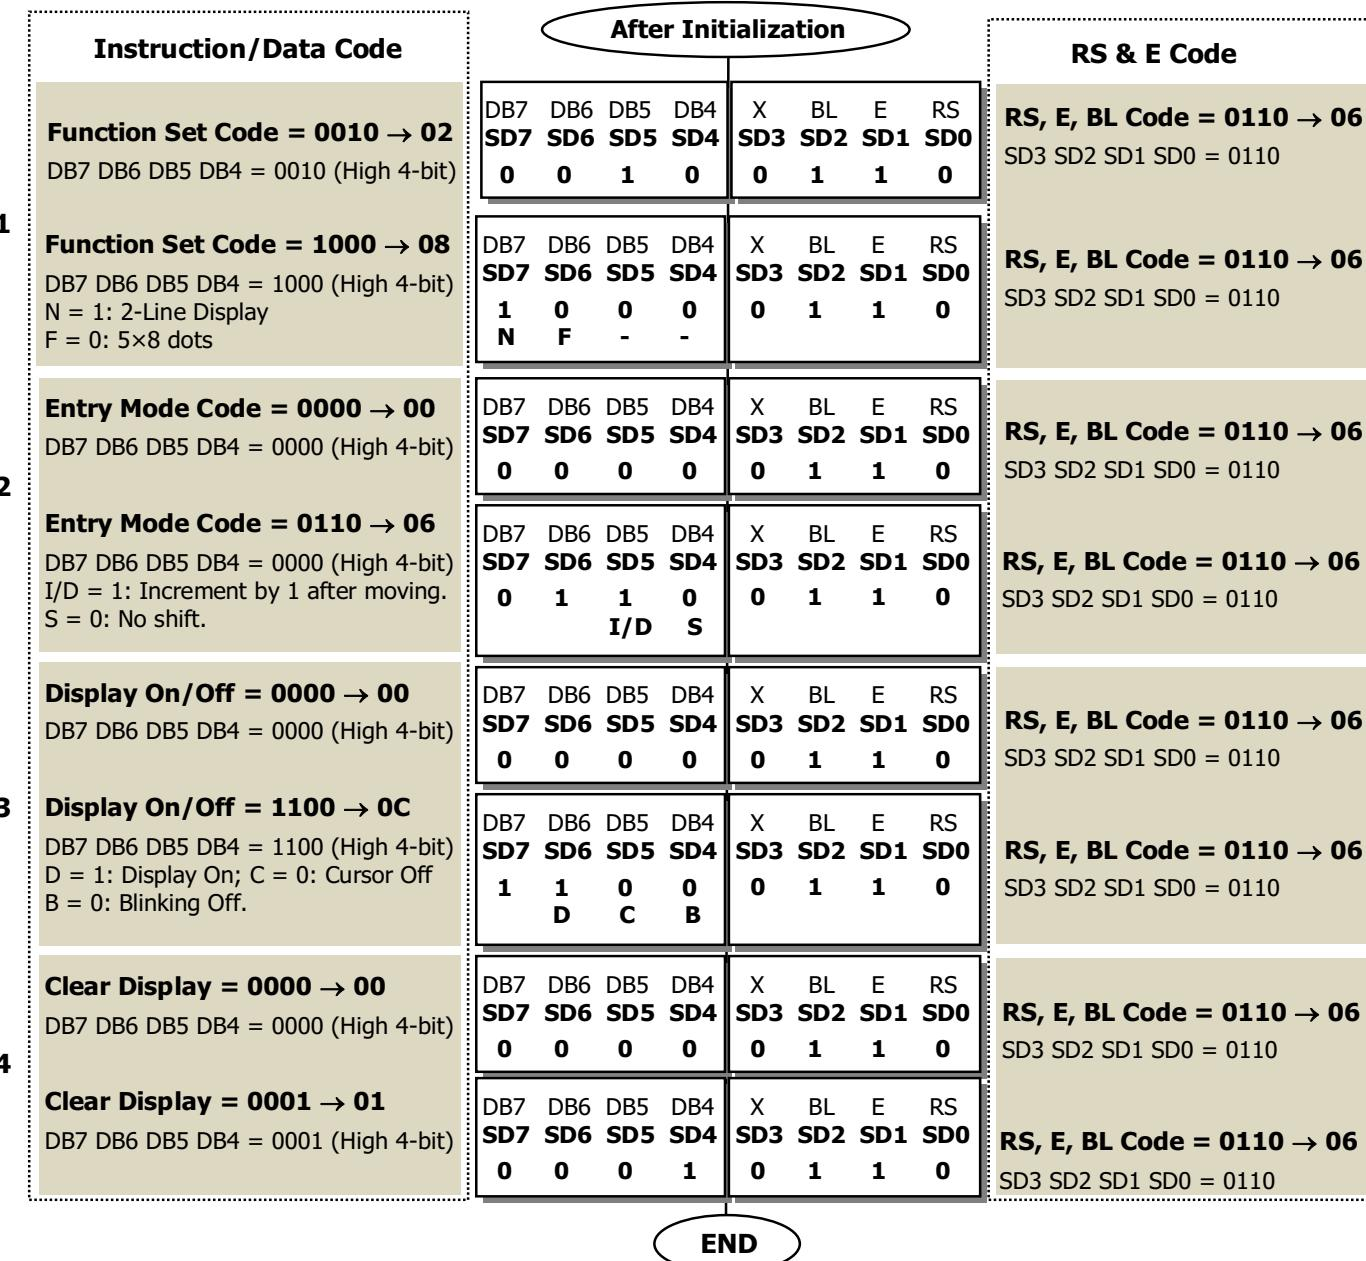

Figure 8.26 Operational sequence of LCD function set and configuration.
- The operational sequence of the LCD **function setup** and **configuration** process is shown in Figure 8.26 (next slide).
- For example, to transfer the Function Set Code **0x28** at step 1 in Figure 8.26, this 8-bit code **0x28** is broken into two pieces, **0x2** and **0x8**, as shown in coding steps 4 and 5 in Figure 8.25.
- **Step 2** in Figure 8.26 is used to set the entry mode code, which is **0006** or **ox06**. This 8-bit code is also broken to two pieces of 4-bit codes: **0000** and **0110** and sent in two times with the **BL**, **E** and **RS** signal together to the SPLC780 via the 74VHCT595.